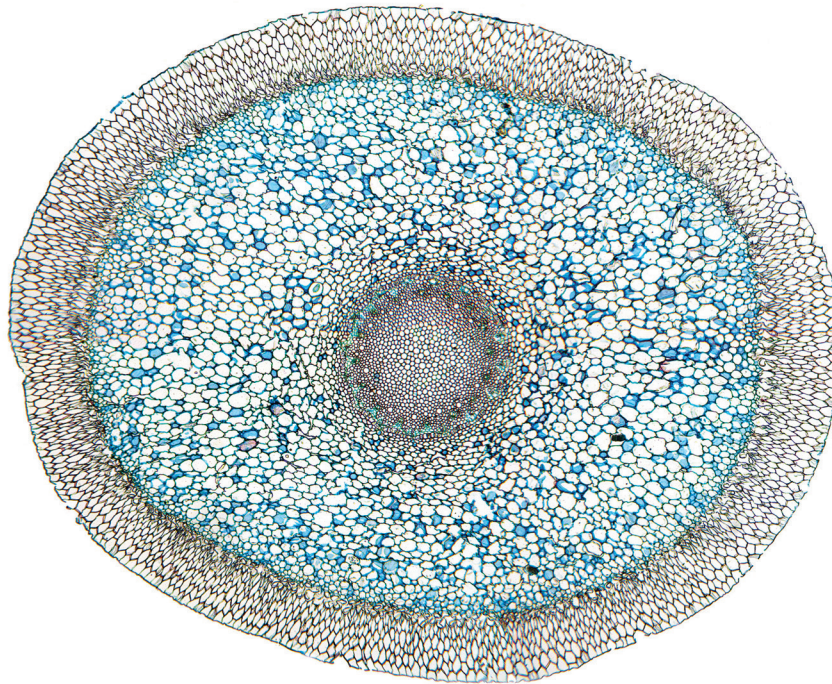
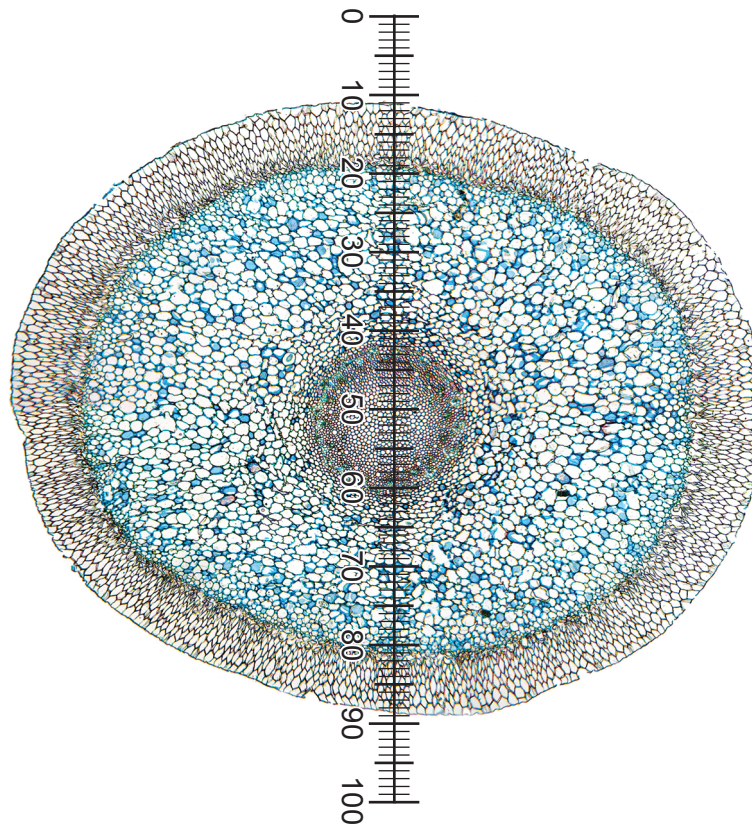

Fig. 2.2
Fig. 2.3
- (b) Fig. 2.2 is a photomicrograph of a stained transverse section through a root of a different type of plant.
Identify the observable differences between the section on **K1** and the section in Fig. 2.2.
(c) Fig. 2.3 is a photomicrograph of the same root section as in Fig. 2.2, viewed using a microscope with an eyepiece graticule placed across the section.
An eyepiece graticule is shown on Fig. 2.3.
Use the calibration of the eyepiece graticule scale to calculate the actual diameter of the section in Fig. 2.3.